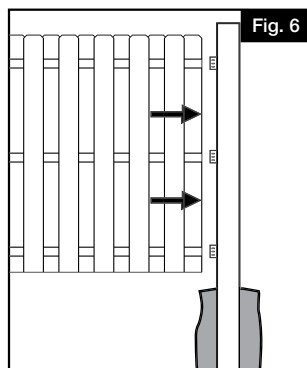

Fig. 6
- a. Set panel into the brackets on the first pre-set post (Fig. 6).